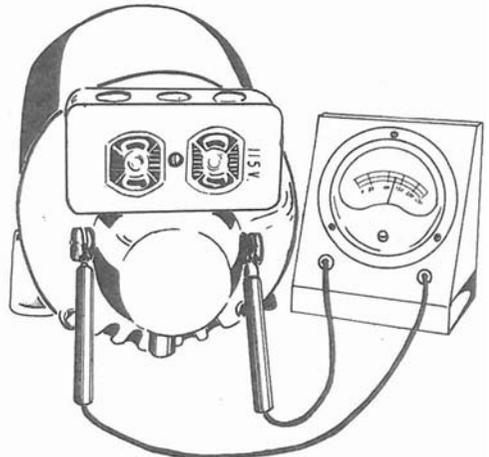

Figure 12
2. If low or no AC voltage is obtained at the outlet terminals, continue to run the generator on open circuit and check the AC voltage at the brushes. This can be done by unscrewing the brush caps one-half way as shown in Figure 12, using a pair of sharp prods of the voltmeter to connect directly to the brush holders; about 120 volts should be obtained at this point with the generator running at normal speed. If the correct AC voltage is obtained at the brushes but not at the AC outlets, there must be an open circuit between the brushes and outlets.